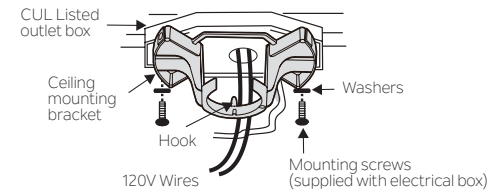

Fig. 6
**Step 3.** Pass the 120 volt supply wires from the ceiling outlet box through the center of the ceiling mounting bracket. (Fig. 6)
**Step 4.** Attach the ceiling mounting bracket to the outlet box using the screws and washers included with the outlet box. (Fig. 6)